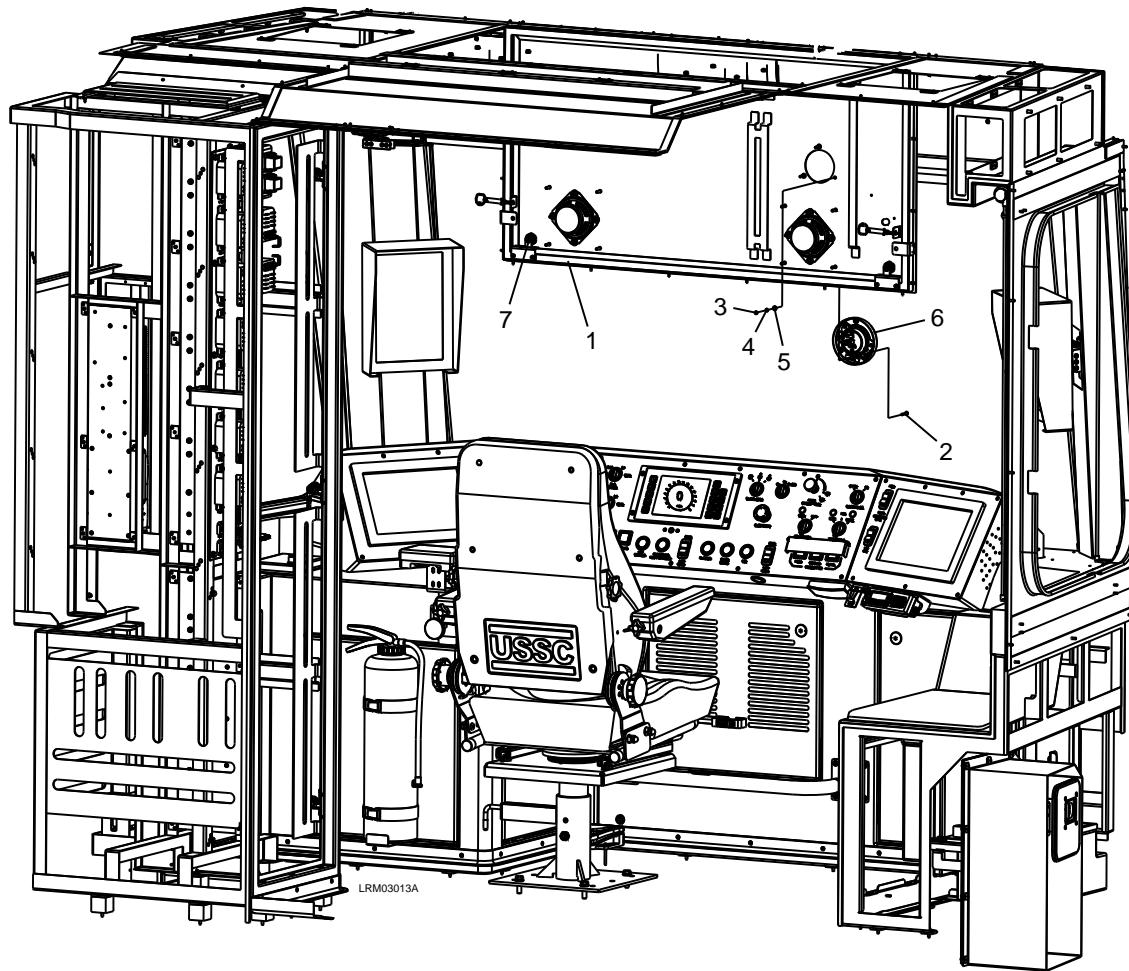

Figure 7-12: Cab Console Light
1. Unlock the two locks (7) and lower the cab ceiling panel (1) to access the Cab Console Light (6). See Figure 7-12.